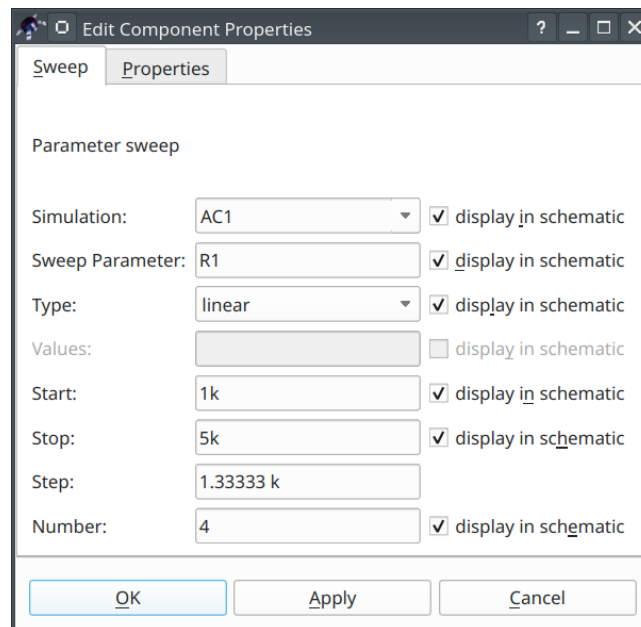

Figure 14: Setting parameter sweep properties
- **Step 2:** Set the properties of the parameter sweep simulation. After the double click the dialog window will be opened (Figure 14). The *Simulation* drop-down list is the the name of simulation component to which the parameter sweep is attached. For our example we need to select the **AC1** simulation from the drop-down list, because we attaching the parameter sweep to the AC simulation. The *Sweep parameter* input field is the **device** name. Variables or other objects name are not acceptable here! Enter the **R1** device name here. The *Start*, *Stop*, *Step*, and *Number* input fields serve for the definition of the sweep range. We will sweep the **R1** value from 1 kOhm to 5 kOhm and take 4 sweep points.